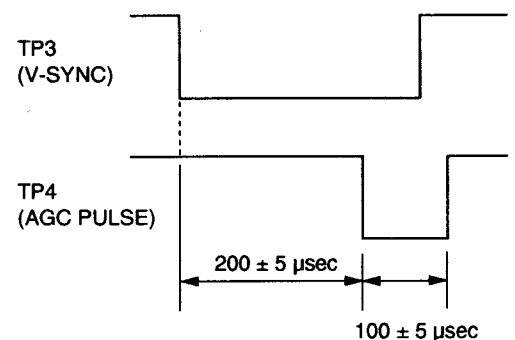

Fig. 5-2-5
- Adjust VR4 so that the AGC Pulse Phase becomes  $200 \pm 5$   $\mu$ sec. as shown in the Fig. 5-2-5.
- Adjust VR11 so that the AGC Pulse Width becomes  $100 \pm 5$   $\mu$ sec. as shown in the Fig. 5-2-5.